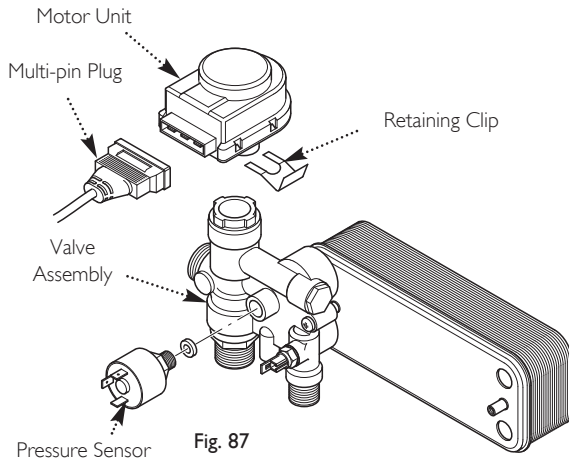

Fig. 87
14.20 Diverter Valve - Motor Unit & Assembly (Fig. 87)